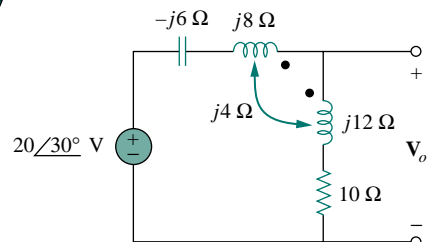

Figure 13.76 For Prob. 13.6.
- 13.6** Find V_o in the circuit of Fig. 13.76.